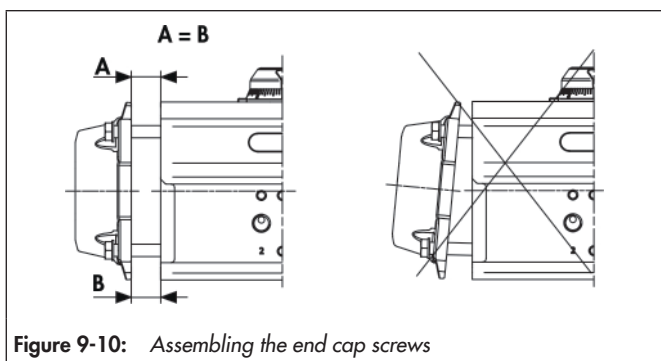

Figure 9-10: Assembling the end cap screws
- ⇒ Assemble the end cap and maintain a constant distance ($A = B$) between the rotary actuator housing and the housing interface, see Figure 9-10.